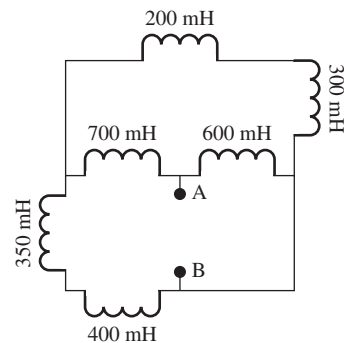

FIGURE P4.46 Inductor network.
4.46 (H) Find the equivalent inductance across points A and B in Figure P4.46.